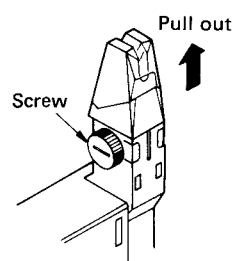

Fig. 2
2. Completely loosen the cartridge setscrew and pull out the cartridge. (Fig. 2)